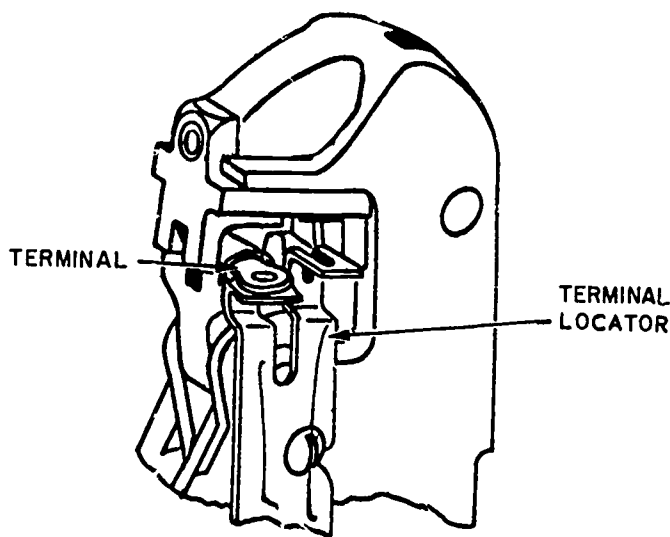

Figure 3. (Shown in the up position).
c. Figure 3 shows the side of the crimping tool opposite the instruction plate side. On this side of the crimping tool is a terminal locator. This locator is used only when crimping a terminal lug. The locator acts as a stop for the lug. The locator can be turned out of the way. This is done when wire splice connections need to be crimped. The terminal is moved in the correct nest until the terminal barrel is against the locator.
- d. Select a terminal lug. Put it, TONGUE first in the proper nest of the crimping tool. This is shown by the color code on the tool data plate. The barrel of the terminal lug should be up against the locator stop of the crimping tool, figure 3.